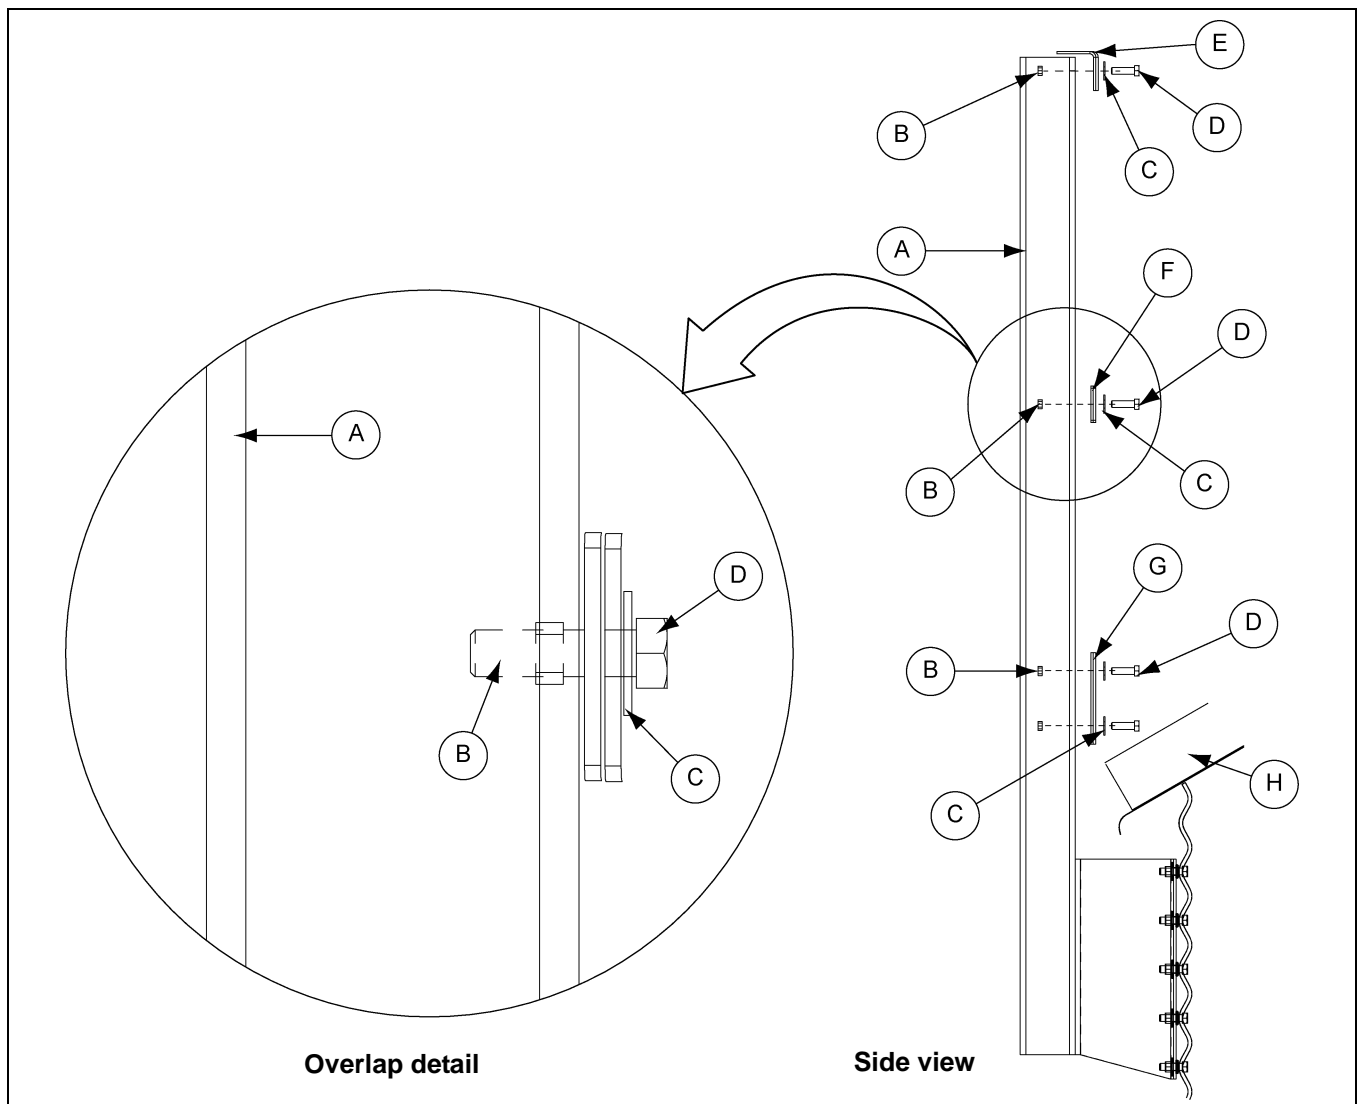

Figure 3D
To complete the eave guard assembly, attach one each of the top rail (E), middle rail (F) and kick plates (G) to the guard channels (A) as shown in Figure 3D. Each component installed will overlap those previously installed. Use 3/8" hardware for each connection.